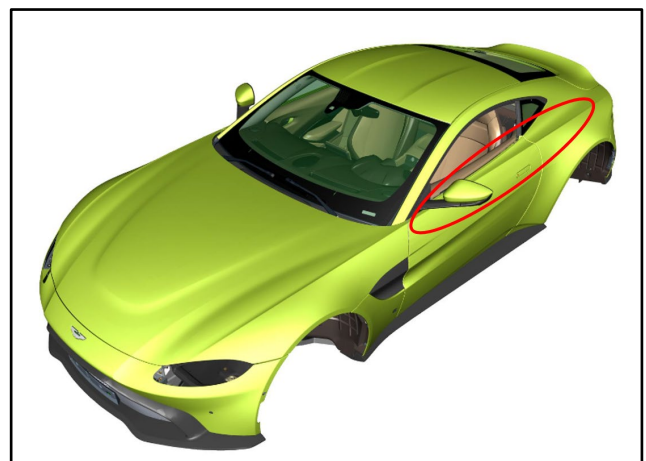

Figure 3
3. Close the bonnet and make sure it aligns with the car body 'style line' (refer to the area shown in Figure 3).